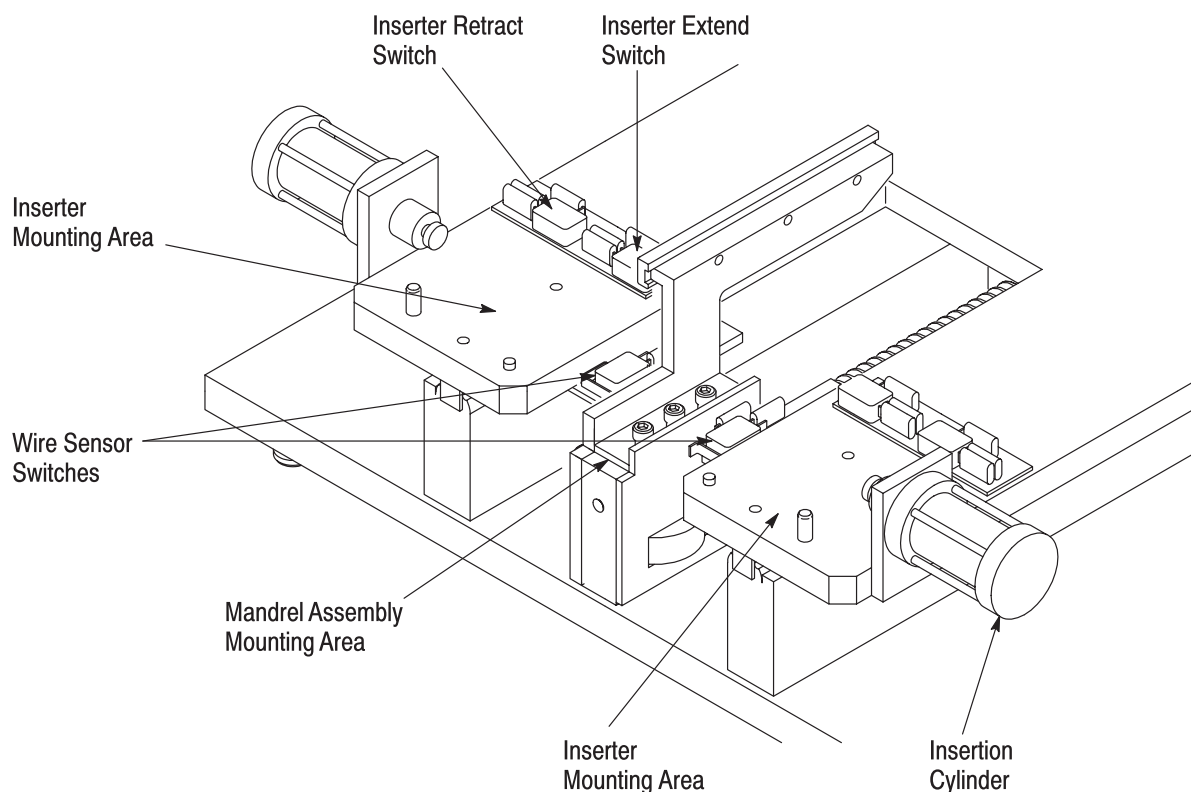

Figure 5
3.4. Tooling Installation (Figures 5 and 6)
The tooling kit consists of the mandrel assembly and right and left inserters. Figure 5 shows the machine without tooling installed.